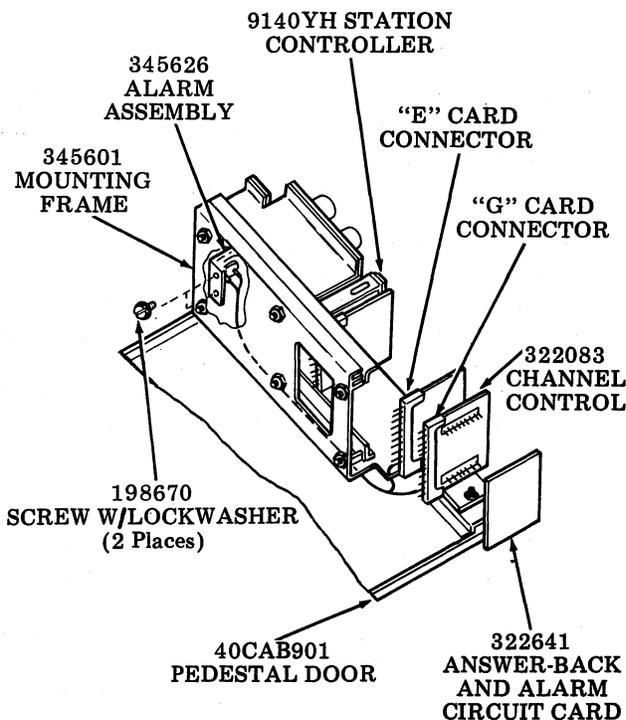

Fig. 34
3.07 The 345625 modification kit will supply an audible alarm and optional answer-back if the station is not ready to receive (DTR off) or a vertical parity error is detected in the message text. A ready to receive answer-back is sent if DTR is on and no errors are detected. The 9140YH controller must contain a 322083 (G3) card and its wiring must conform to Issue 8 or higher of 8523WD Wiring Diagram. Installation of the 345626 alarm assembly and 322641 circuit card are shown in Fig. 34 with details given in Specification 50,803S and the 2006SD Schematic Diagram.